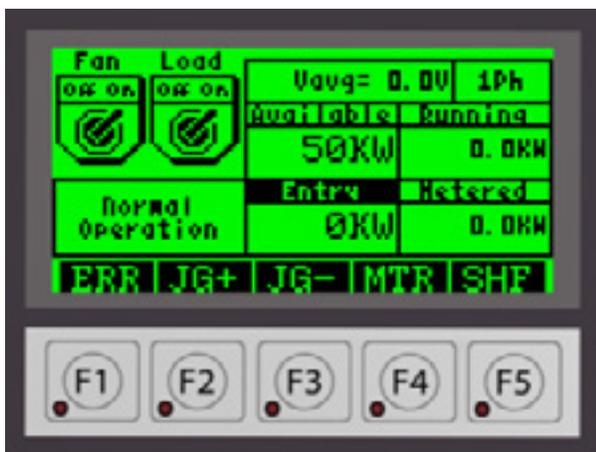

Figure 5 Power On
2. With the “Fan” switch set to “On.” Turn the Load switch “On.” This action will enable the load (See Figure 5).